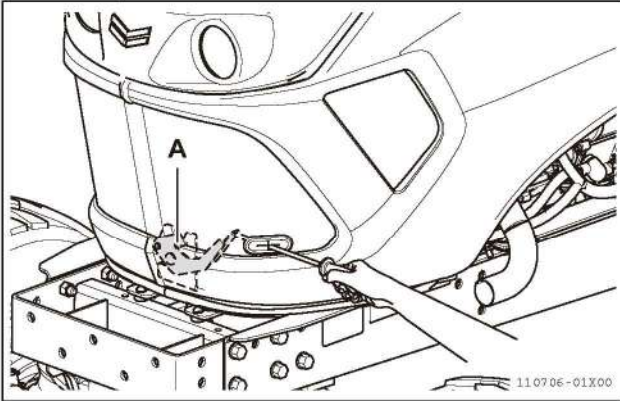

Fig 14-3
4. Push the hood release lever (Fig 14-3, A) with the hood open bar to unlatch the hood lock.